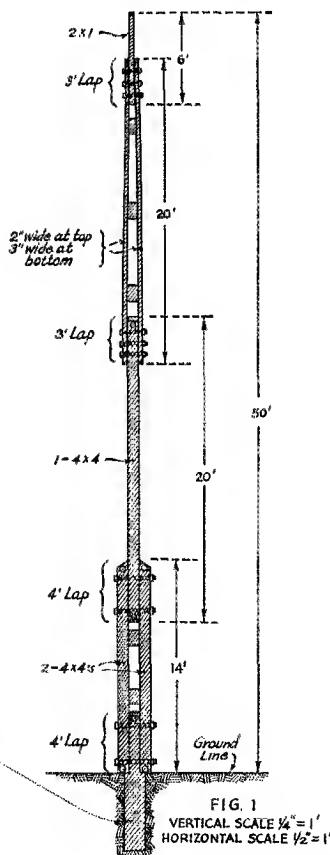

FIG. 1
1. Saw sides of bottom piece (6 x 6) to accommodate lapping of the two 4 x 4's. See Figs. 1 and 2.